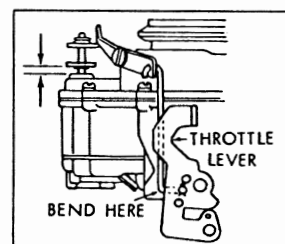

FIGURE 4
c. See Figure 4 and Adjustment Data Table. Place Pump Vent Clip in center notch on pump stem. Pump rod in center hole of throttle lever, back off idle stop screw choke valve wide open and throttle valves tightly closed. Measure between bowl vent and vent seat. Bend rod to adjust.
PUMP ADJ. Fig.4